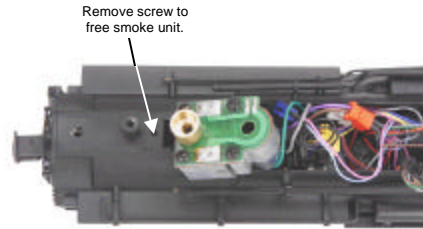

Figure 17
If you choose not to add the fluid (or have already added the fluid but choose to run smoke-free), turn off the smoke unit switch located under the locomotive cab (see Fig. 17). **Failure either to add fluid to the unit or to turn it off may damage the smoke unit heating element and/or wick material.**
1. Once the boiler has been removed, remove the inspection cover (Fig. 17 & 18). Inspect the wick; if it is darkly discolored and hard, it should be replaced.